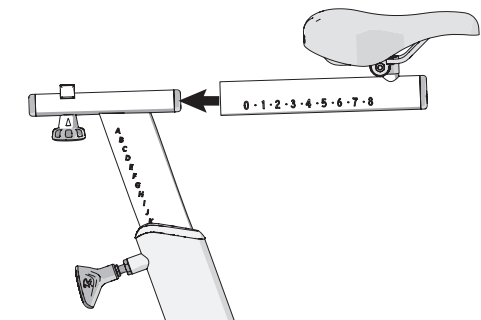

Figure 6
- 1. Slide the seat assembly onto the seat post (Figure 6).